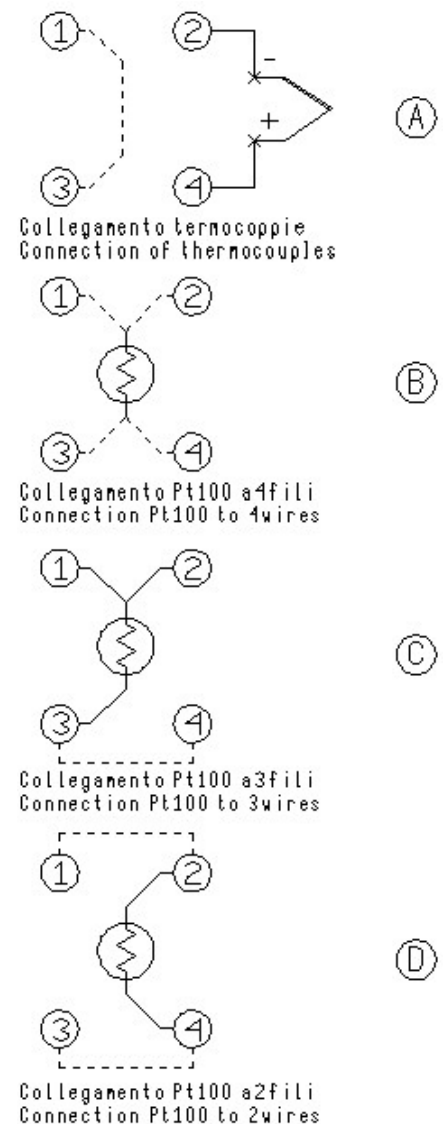

Fig. 5
- ◇ Thermocouple – connect the wires of probe to the clamps 2-4 to make attention to the polarity; connect the clamps 1-3 as indicated. Reference to Fig. 5-A
- ◇ Pt100 to 4 wires – connect the clamps 1-2-3-4 as indicated in Fig. 5-B
- ◇ Pt100 to 3 wires – connect the wires of probe to clamps 1-2-3; connect the clamps 3-4. Reference to Fig. 5-C
- ◇ Pt100 to 2 wires – connect the wires of probe to clamps 2-4; connect the clamps 1-2 & 3-4. In case of two wires connections remembers to us shortest wires possible. Refer to Fig. 5-D